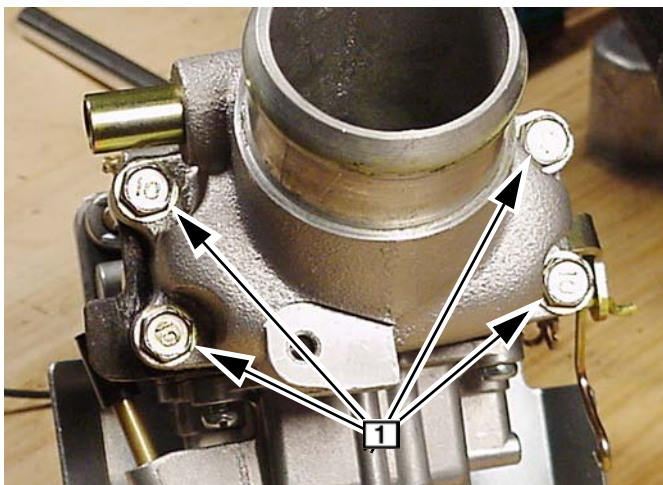

Fig. 47
- Remove air cleaner elbow screws **1**, Fig. 47, and separate carburetor from intake elbow and air cleaner elbow.